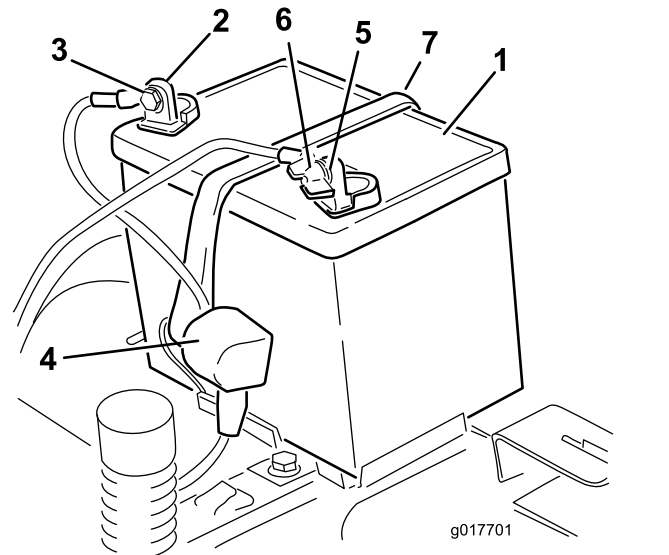

Figure 48
4. Disconnect the negative (black) ground cable from the battery post (Figure 48).
6. Disconnect the positive (red) cable from the battery post (Figure 48).
7. Remove the battery hold-down (Figure 48), and lift the battery from the battery tray.
- Position the battery in the tray (Figure 48).
- Secure the battery with the hold-down (Figure 48).